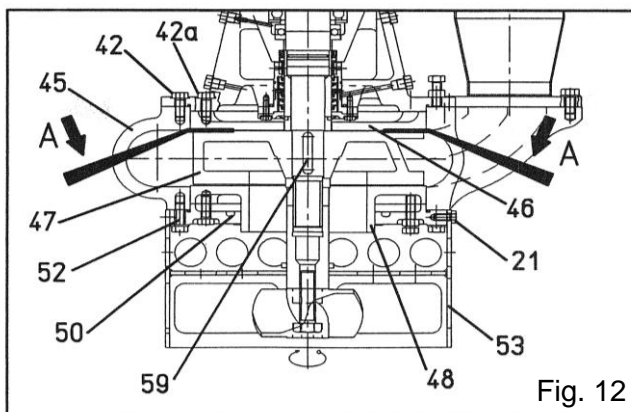
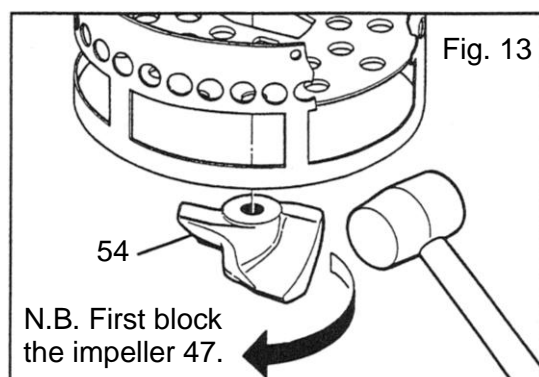
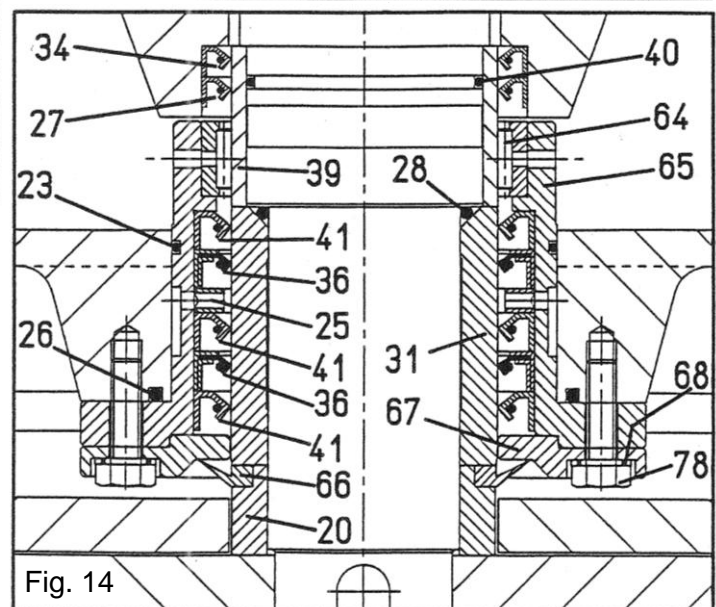

Fig. 12
Fig. 13
Fig. 14
- Remove the filter **53** (Fig. 12) by unscrewing the screws **21**.
- Unscrew the cutter **54** by hitting it smartly in an anticlockwise direction as shown in Fig. 13; make sure the impeller **47** (Fig. 12) is blocked with an iron rod.
- Extract the flange on the suction side **50** (Fig. 12) after having removed the screws **52**. With the flange pos. **50** the lower wear plate **48** also will come down.
- Remove the casing **45** (Fig. 12) after having removed the screws **42**.
- Extract the impeller **47** using two levers "A" (Fig. 12). If it sticks use an extractor, taking care not to damage the threaded part of the motor shaft.
- Remove the key **59** (Fig. 12) and immediately after the sleeve **20** (Fig. 14). To remove the upper wear plate **46** unscrew the screws **42a**.
- Change the seals **27** (n° 1) and **34** (n° 1) with their wear sleeve **39** (n° 1) and the o-ring **40** (n° 1). Then change the seals **66** (n° 1), **41** (n° 3) and **36** (n° 2), the two lower shaft sleeve **31** and **20**, the three o-rings "OR" **28**, **23** and **26** as shown in Fig. 14 taking care not to damage any spare.